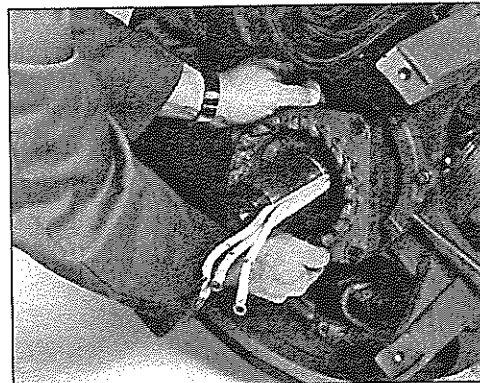

Figure 6-16
5. Carefully remove the PMG stator from its mounting pads and slide over the PMG rotor. The magnets used in the PMG are very strong. They will resist removal of the PMG stator (figure 6-16).